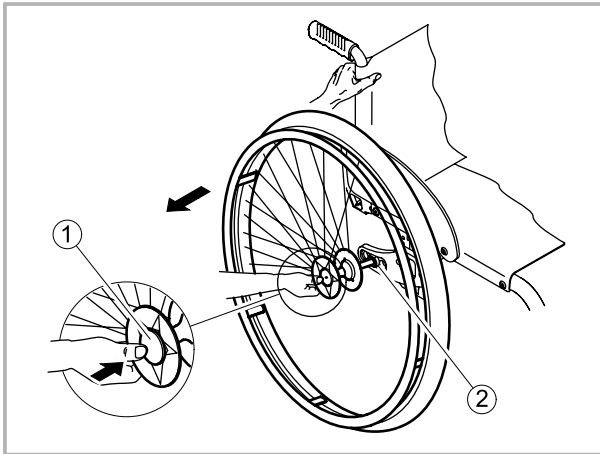

Figure 14
- With the other hand, hold the wheel at the spokes around the wheel hub (see Figure 14).
- Press the axle cap ① with your thumb and pull the wheel out of the adapter sleeve ②.
- Press the axle cap ① with your thumb and keep it pressed.
- Now insert the axle in the adapter sleeve ② until it comes to a rest.